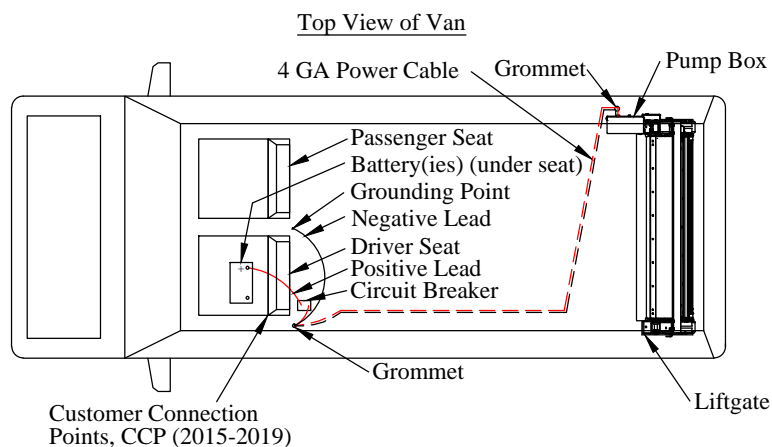

Figure 15: Electrical routing.
5. **Route** the power cables under the vehicle from the liftgate, along the frame, to a location under the driver door (Figure 15).